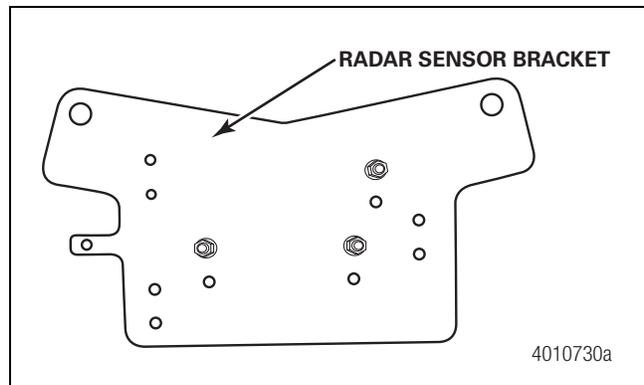

Figure 4
- Place the radar in position on the bracket. Install the M6 flange nuts provided in the kit and tighten to 61-75 in-lb (6.9-8.4 N•m). No movement should occur between the bracket and the radar sensor after the sensor has been correctly installed on the mounting bracket. Figure 4.